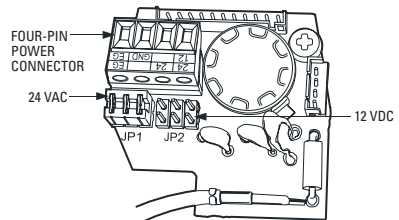

Figure 7. Voltage Jumper Settings
- Reset the voltage jumper on the camera power board. Refer to Figure 7. Remove the jumper from JP1 (AC) and reinstall the jumper on JP2 (DC).